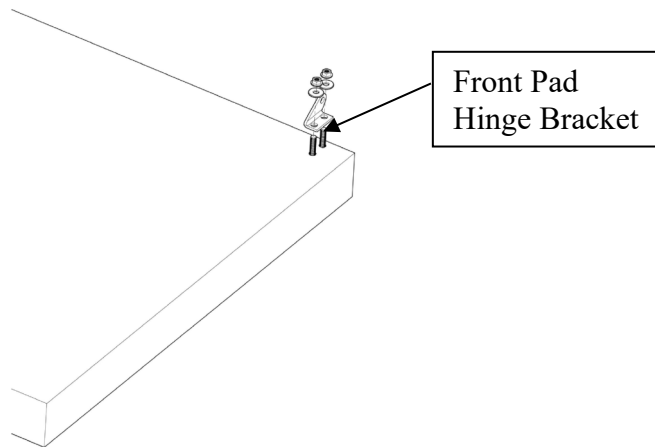

Figure 8
27. Refer to the installation instructions for the rear floor anchor found in the package of the floor insert (item 33) and install the insert into the floor. This insert is to be installed at the rear anchor location marked on the floor in step 24.
29. Insert the brass floor inserts (item 19) into the holes drilled in step 28.
31. Install the rear anchor tie down bolt (item 17) on the rear of the unit and secure the anchor bolt to the floor anchor insert.
32. Attach the backboard padding to the backboard. Attach the horizontal boom pad (item 8) to the boom just behind the backboard.
34. Install the Upright pad (item 6) to the front upright using 1/4"-20 pan head screws (item 21). **Do not over torque hardware.**
35. Install the remainder of the padding using the 1/4" studs (item 20), flat washers (item 28), and nuts (item 27).
36. Attach the hinge bracket (item 13) to the front base pad (item 3). Refer to figure 8.